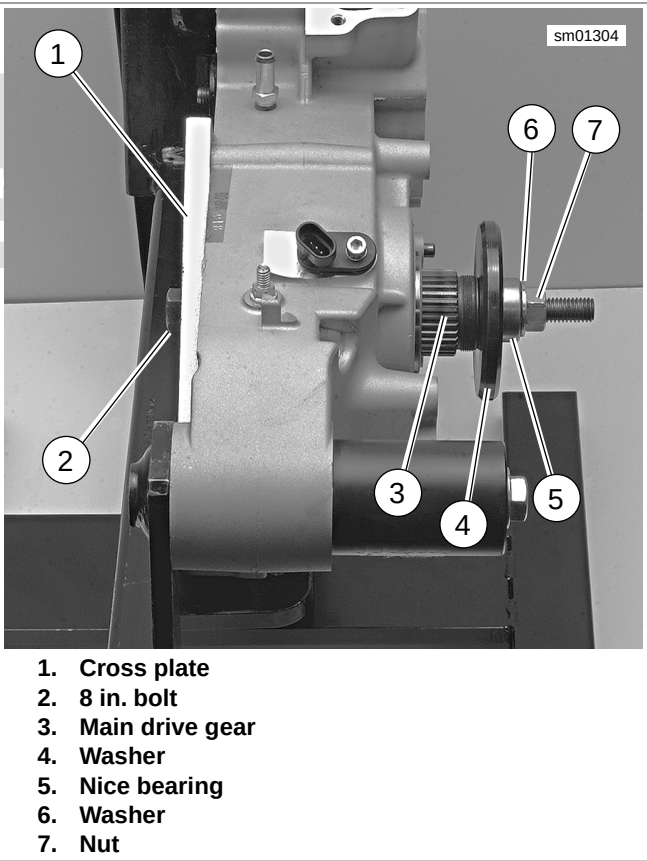

Figure 5-73. Removing Main Drive Gear (typical)
4. See Figure 5-73. Insert 8 IN. BOLT (Part No. HD-35316-4A) (2) through cross plate (1) and main drive gear (3).
5. At outside of case, place WASHER (Part No. HD-35316-7) (4), NICE BEARING (5), FLAT WASHER (6) and NUT (7) over end of bolt. Tighten nut until main drive gear is free.